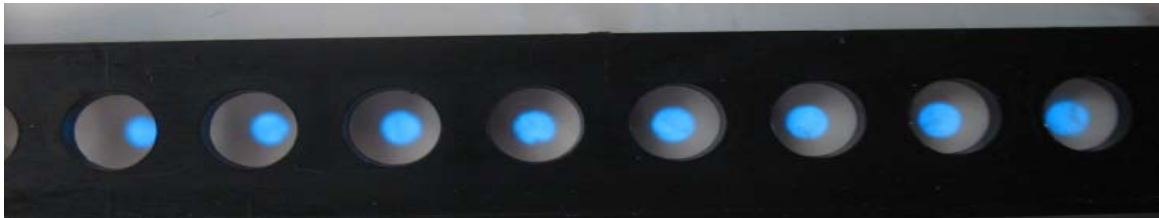

Figure 3-40
11. Find a white thin paper; put it at the eight light points to watch the faculas, as shown in figure 3-40. The 8 faculas should be at the center position of the black hole as figure 3-40. If there is deviation, you shall loosen the two screws which fix the optical fiber, fine tuning the position of optical fiber, until the facula come to the center of the hole, then fix the screw again.